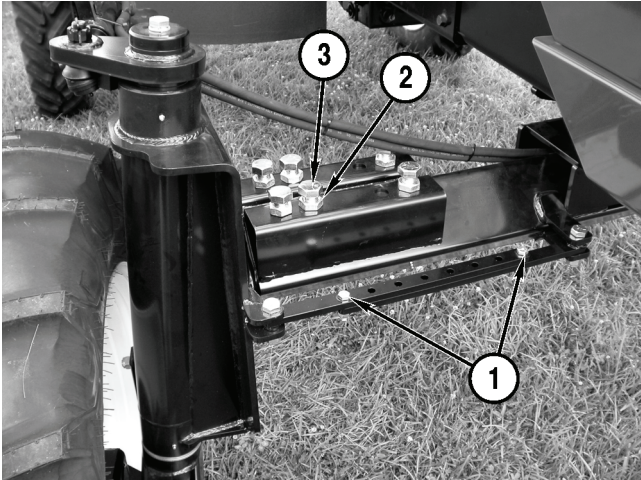

Figure 3-27
2. Remove the two inner bolts (**Figure 3-27, 1**) from the locking bar.
3. Loosen the six jam nuts (**Figure 3-27, 2**) and six bolts (**Figure 3-27, 3**) on the axle brace. The right front axle is shown in **Figure 3-27**.
5. Tighten the six bolts (**Figure 3-27, 3**) to 80 lb-ft (108 N·m) to secure the axle in place.
6. Tighten the jam nuts (**Figure 3-27, 2**).
7. Install the two locking bar bolts (**Figure 3-27, 1**) and tighten.